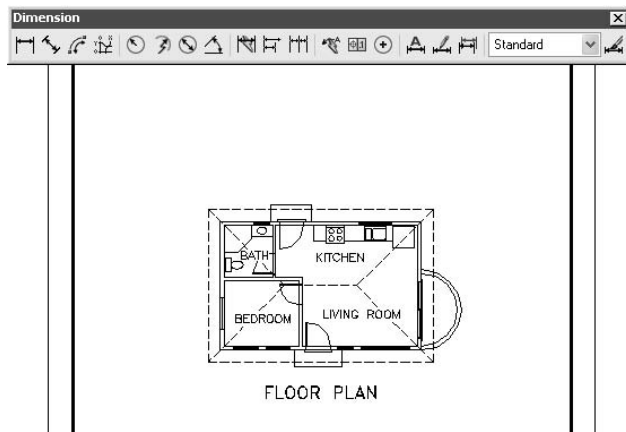

FIGURE 11.1: The floor plan of Cabin10c with the Dimension toolbar centered at the top of the drawing area
7. Move the Dimension toolbar to the top center of the drawing area, being careful to avoid docking it. (You learned about moving toolbars around on the screen in Chapter 1.) Your drawing will look like Figure 11.1.